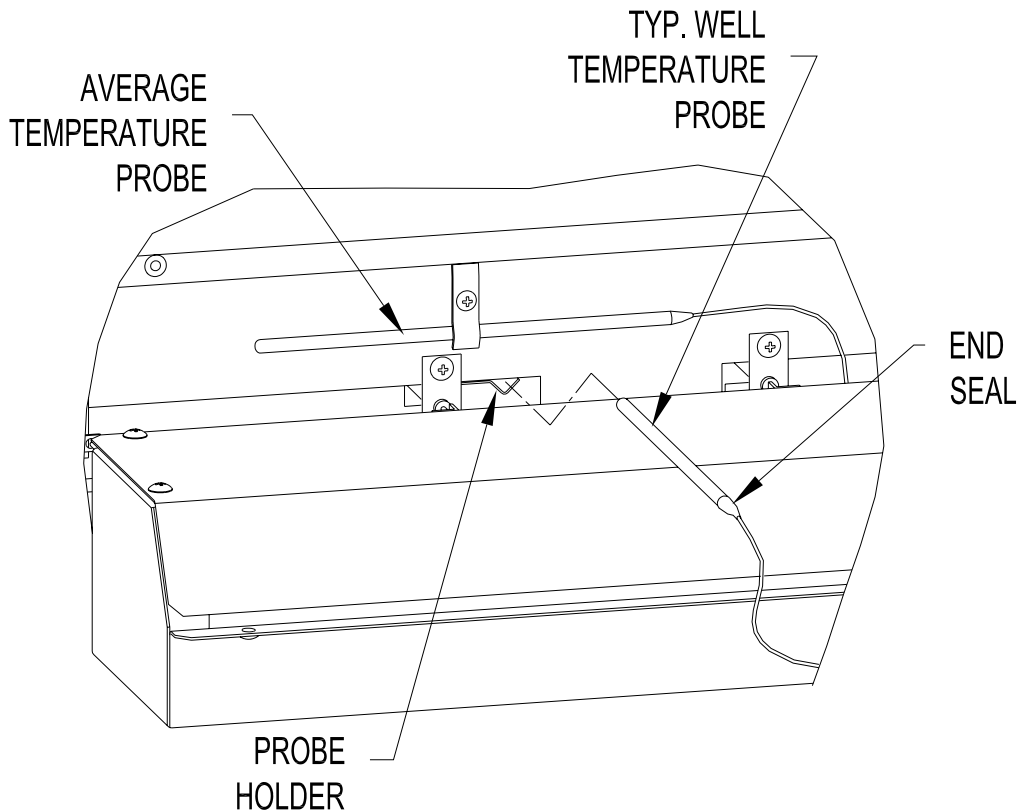

Figure 11. Temperature Probes
2. Loosen probe clamp retaining screw (see Figure 11) and slide probe out of clamp.
2. Pull existing probe from probe holder (see Figure 11). It may be necessary to bend the probe up slightly to clear the control panel.
6. Insert the replacement probe into the probe holder until the probe end seal is up to the probe holder (see Figure 11). Neatly coil any excess lead length from the probe in the bottom of the wiring trough.